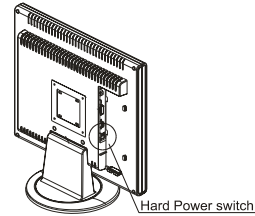

Figure 1-8
1. Turn on the LCD monitor's hard power switch, located on the back of the monitor (See Fig. 1-8)